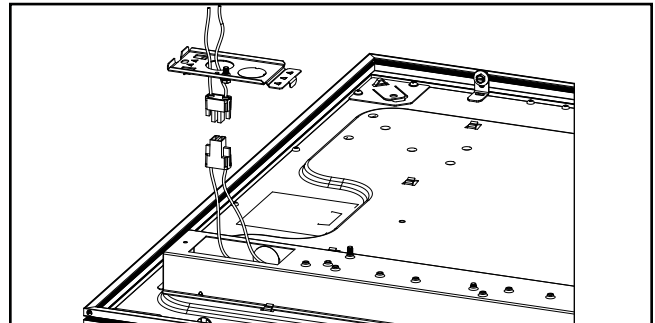

Figure 5.
7. Remove a knockout bring in the supply line. Attach the ground wire to the ground supply wire. Using the linear disconnect, attach the black (line) wire to the black supply wire, and the white (neutral) wire to the white supply wire (Fig. 5).
NOTE: This fixture is compatible with battery backup systems including the Surelites EBPLED7W and EBPLED14W. If using a battery backup system remove driver cover plate to access LED load wires and follow battery backup wiring instructions (Fig. 5). Ensure driver cover plate is reinstalled after wiring.